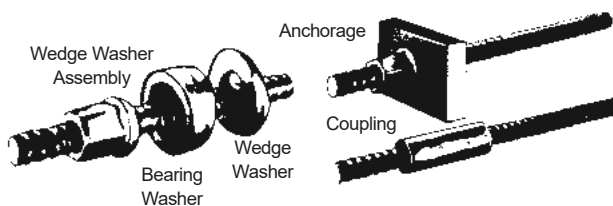

Figure 19: Bar Tendon with Plate Anchor
- 2) **Bar Systems** (Figure 19)